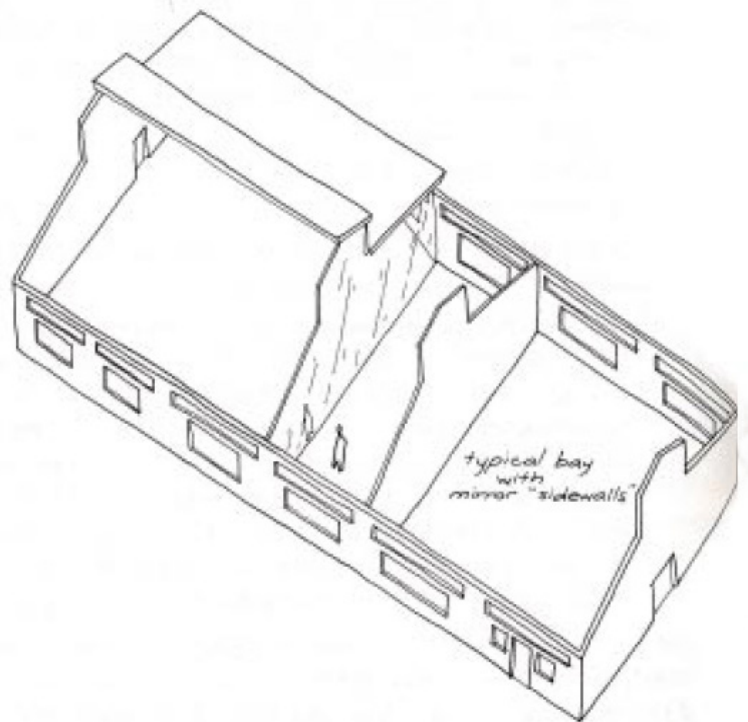

Figure E2.5.1 Modeling a Typical Bay. Linen supply, Charleston, SC
- b. Choose materials that reasonably match the opacity, surface texture, and percentage reflectance of the floors, walls, and ceilings of your space. For large spaces with repetitive bays, such as a factory, build just one bay and insert mirrored “side walls” where adjacent bays would occur [Figure E2.5.1]. The reflectance of these “walls” should be at least 90%.